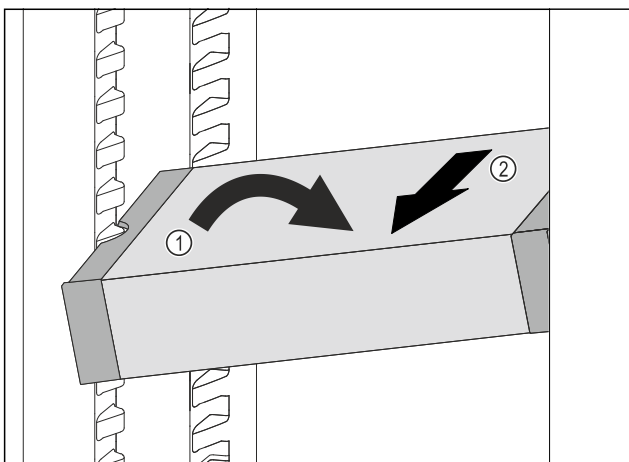

Fig. 207
- ▶ Set VarioSafe in refrigerator compartment at an angle. Fig. 207 (1)
- ▶ Take VarioSafe out to the front. Fig. 207 (2)